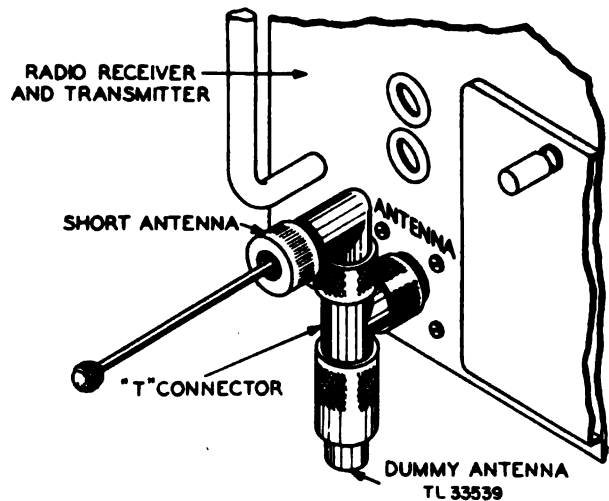

Figure 175. Radio Receiver and Transmitter BC-1267-A, showing antenna test installation.
*a. TRANSMITTER AND RECEIVER ALIGNMENT.* (1) Disconnect Cord CD-1098 and the right-angle connector from the ANTENNA connector. Connect the T-connector to the ANTENNA connector (fig. 175) and plug in the dummy antennas. Snap on the FILAMENT VOLTAGE circuit breaker. Set the SELECTOR switch in the STANDBY position.